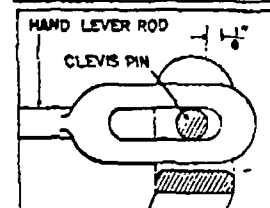

Fig. 1
3. Check and adjust hand lever pull rod so as to obtain $\frac{1}{32}$ " clearance between clevis pin in cross shaft lever and back of slot in hand brake rod. (See Fig. 1.)